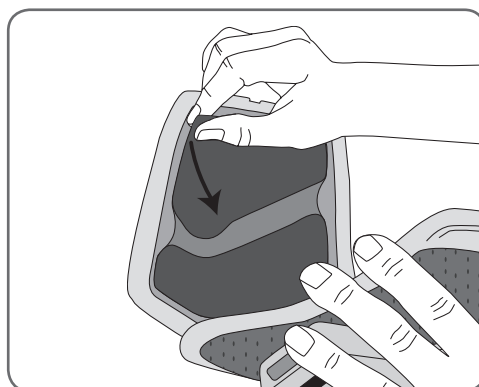

Figure 8-8: Removing the large cloth electrode.
6. Gently remove and rewet the large cloth electrode after every three to four hours of use. See Figure 8-8.